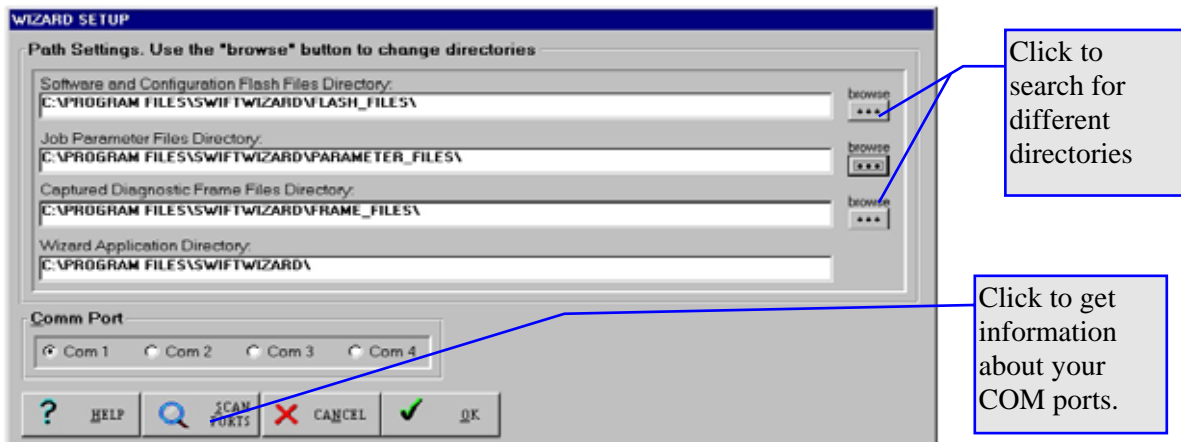

Figure 5: Choose the COM port and/or directories to use.
2. From the Main SPU Connection Screen, the Window which first appears, click the SETUP button or press Alt/U. A setup Window appears like the one shown below. Fill in the information in the Setup dialog Window (see Figure 5). If you are unsure about anything, use the defaults by clicking OK. Click "Cancel" to cancel any changes you made in this window and close it.